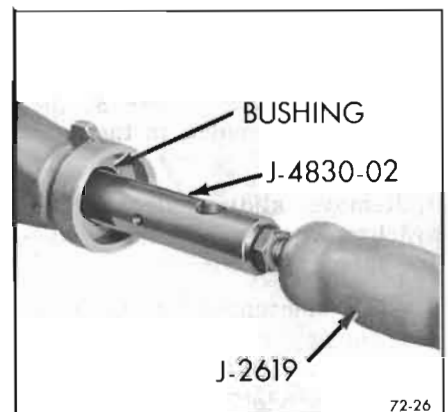

Figure 72-26—Removing Rear Bearing Retainer Bushing
2. Using J-2619 Slide Hammer and J-4830-02, remove rear bearing retainer bushing. See Figure 72-26.